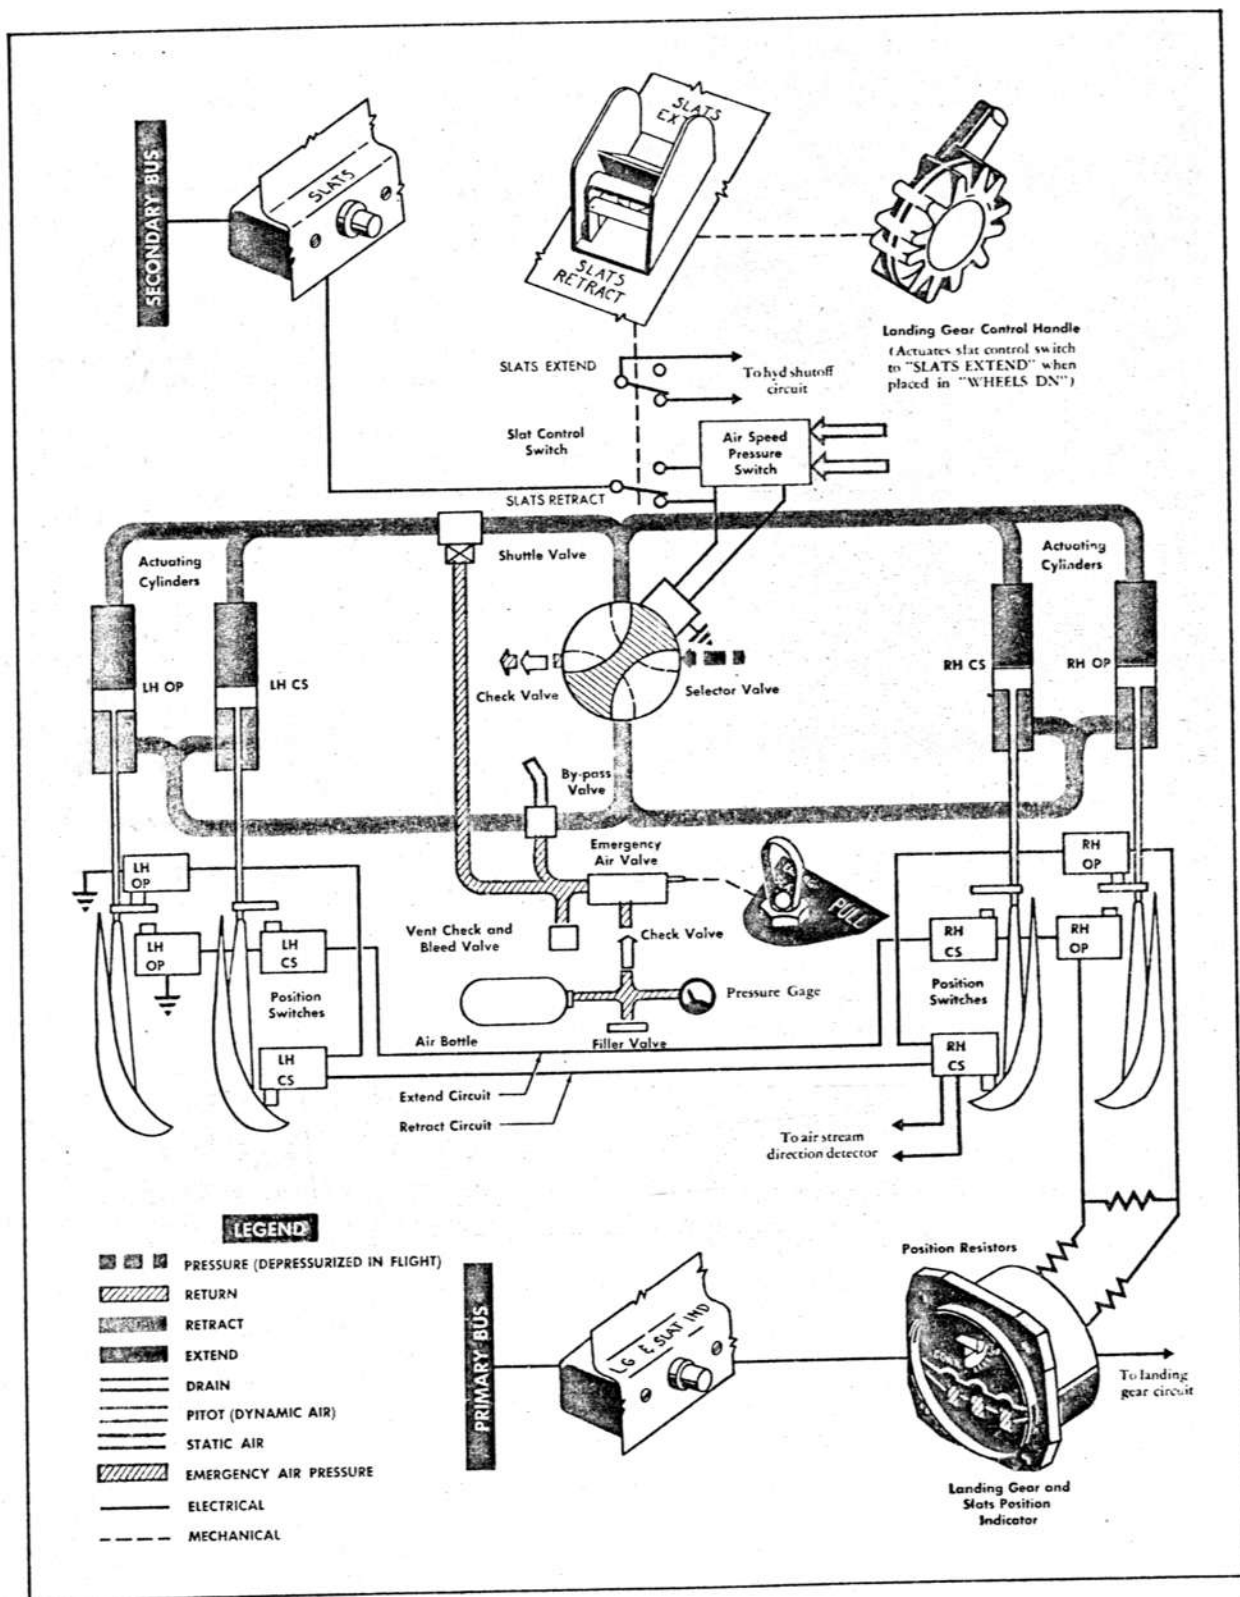

Figure 1-24. Slats Control System Schematic
**GENERAL.** (See figure 1-24.) Full-span controllable slats are provided on the wing leading edges to improve lift at low speeds during landing and take-off. The slats are normally extended and retracted hydraulically by a control switch on the left-hand console. The slat control switch is moved automatically to "SLATS EXTEND" when the landing gear handle is moved to "WHEELS DN." If the slats cannot be extended normally, emergency operation is available by an air pressure system actuated by a pull ring adjacent to the slat control switch. A manually reset bypass valve is also actuated by emergency air pressure, eliminating the possibility of hydraulic pressure being trapped in the retract lines and acting against the air